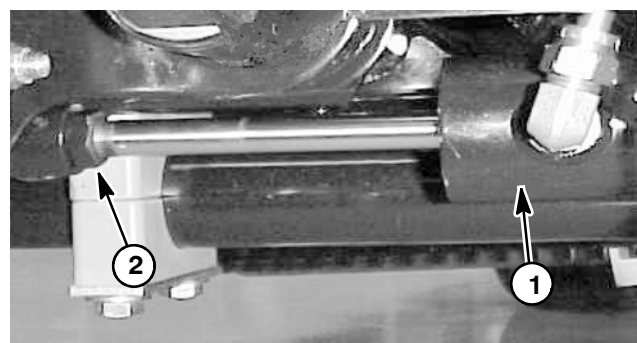

Figure 6
B. Adjust front hydraulic cylinder by backing off jam nut on the cylinder, removing the pin from the clevis, and rotating the clevis (Fig. 6).